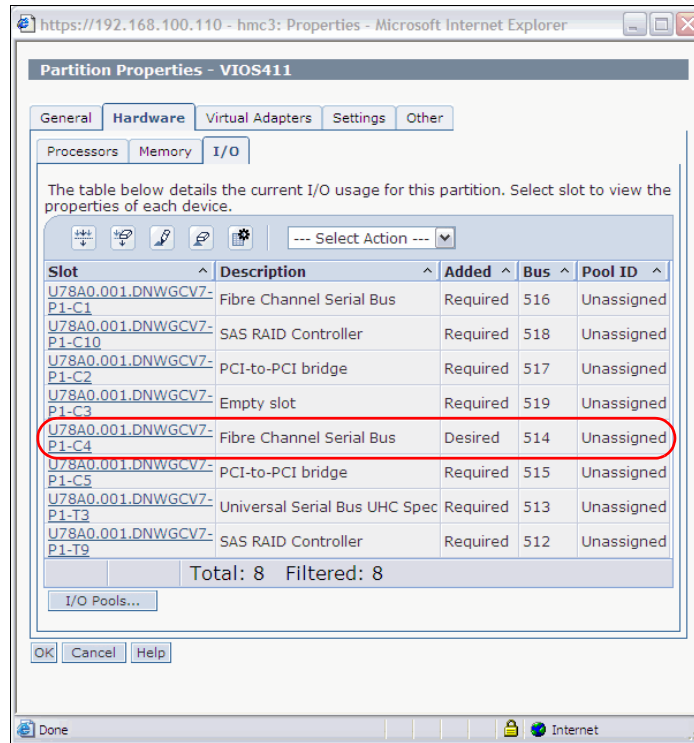

Figure 5-8 Fibre Channel adapter added to Virtual I/O Server
2. Dynamically add the physical Fibre Channel adapter removed from the source partition profile in the previous step to the Virtual I/O Server. The partition Properties Panel will show something similar to the highlighted portion in Figure 5-8 when this step is complete.